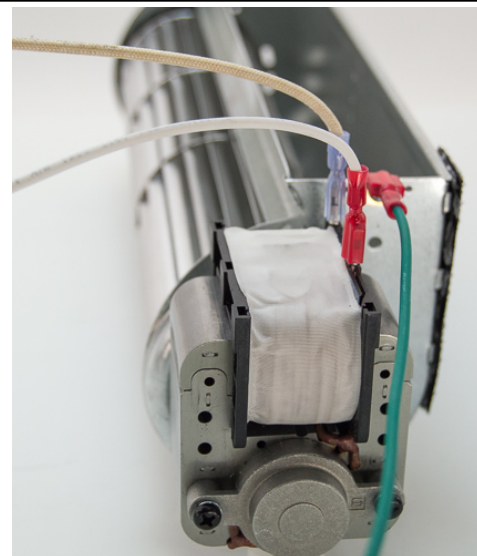

Figure: 2
Step 4: Push the Green Ground Wire disconnect onto the ground tab on the end of fan. (Figure: 2)
Step 5: Connect White and Black wires to either of the spade terminals attached to the motor. Push disconnects onto metal tabs. (Figure: 2)
Hold fan assembly so the fan blades face up and fan motor is furthest away from fireplace. (Figure: 2)